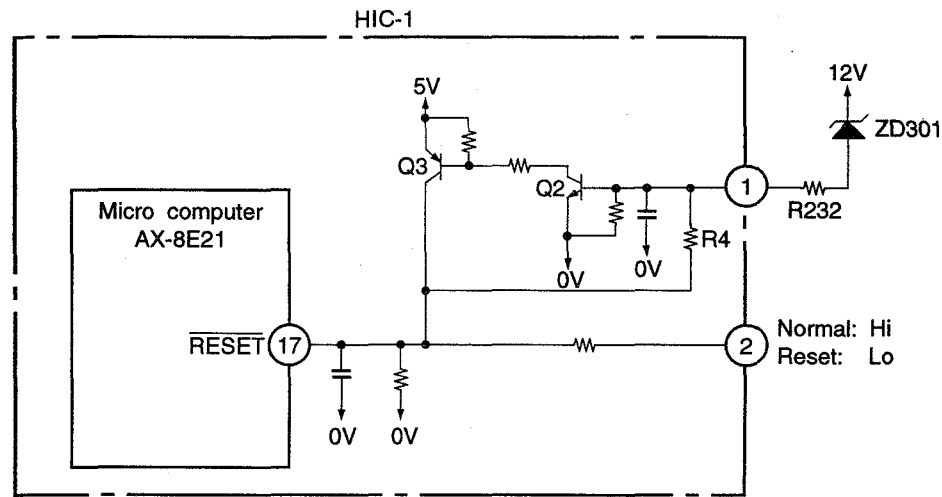
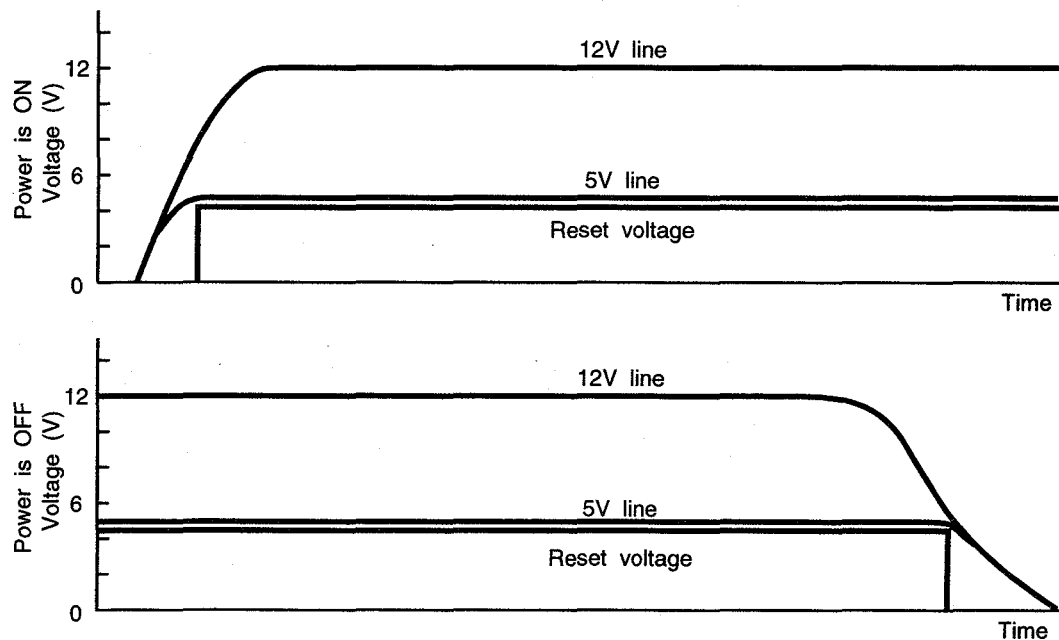

Fig. 11-1
Fig. 11-2
- Fig. 11-1 shows the reset circuit and Fig 11-2 shows waveform at each point when power is turned on and off.
- When power is turned on, 12V line and 5V line voltages rise and 12V line voltage reaches 7.2V (Zener voltage of ZD501), ZD301 is turned ON, Q2 and Q3 are turned ON and reset voltage input to pin ⑰ of microcomputer is set to Hi. By ZD501, reset voltage maintains input of pin ⑰ at Lo until V_{DD} of microcomputer rises to 5V to obtain operable status.